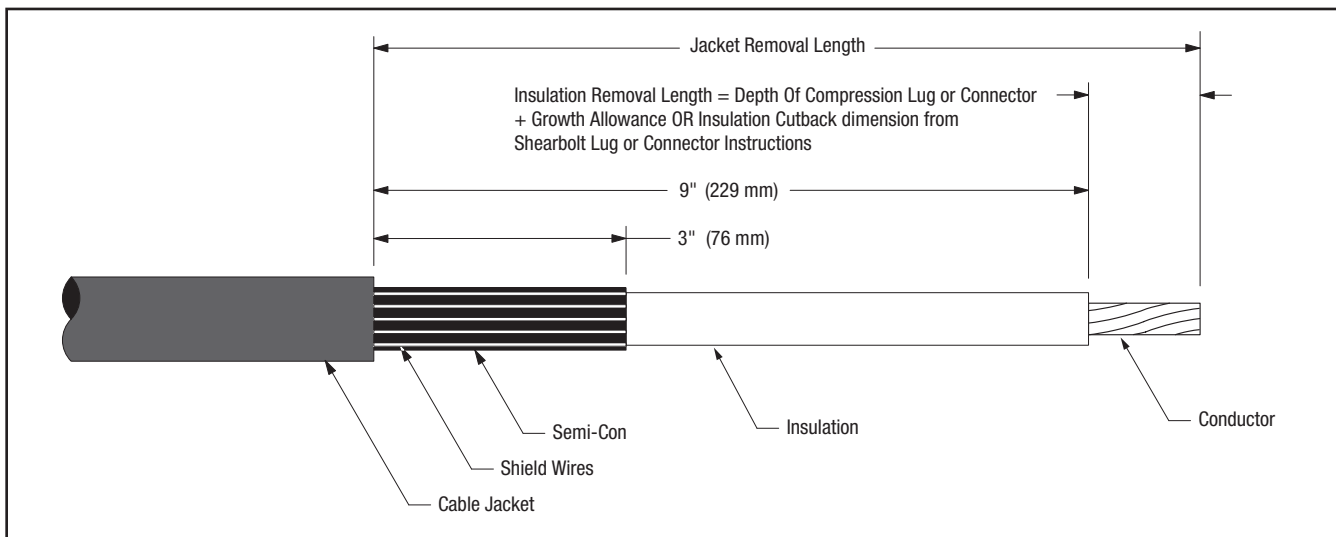
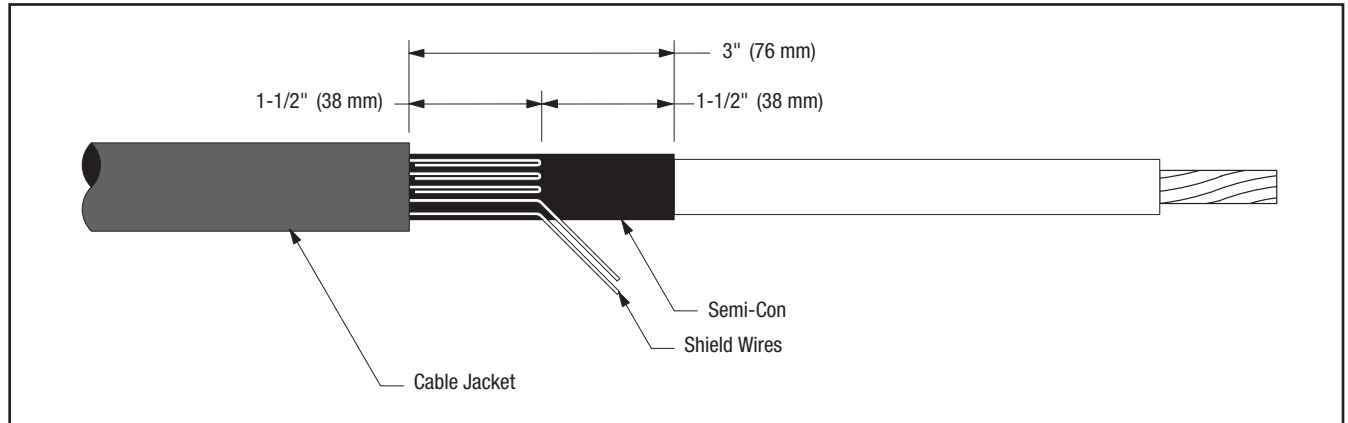

Figure 8
Figure 9
- 7.2 Prepare cable using dimensions shown in Figure 8 and Figure 9. **BE SURE TO ALLOW FOR DEPTH OF TERMINAL LUG OR CONNECTOR.**
- 7.5 Bend leading 1-1/2" (38 mm) of exposed shield wires back upon themselves to jacket edge (Figure 9).